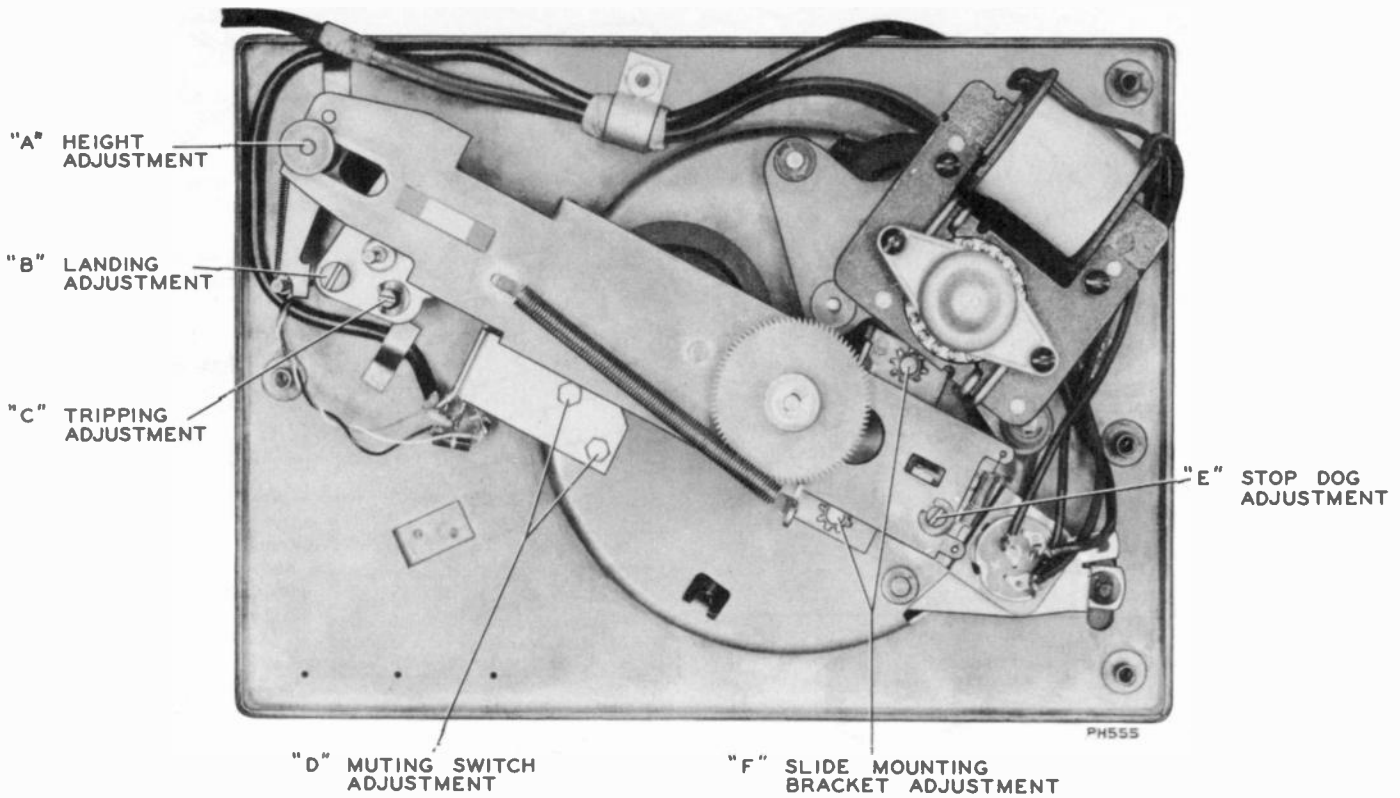

Fig. 38
Under ordinary conditions the landing adjustment is a screw-driver adjustment as shown. The adjustment of eccentric landing adjustment stud (B) gives approximately a  $\frac{1}{4}$ " movement. (See Figs. 38, 40.)
4. Loosen clamp screw (G) and move pickup arm so the stylus is approximately  $2\frac{3}{4}$ " from side of centerpost. Tighten clamp screw. (See Figs. 38, 39.)
5. Exact landing adjustment can now be made by a screw-driver on stud (B). (See Fig. 38.)
### Pickup Height Adjustment (See Fig. 38):
### Mounting Bracket Adjustment (See Fig. 38):
### Muting Switch Adjustment (See Fig. 38):
### Stop Dog Adjustment (See Fig. 38):